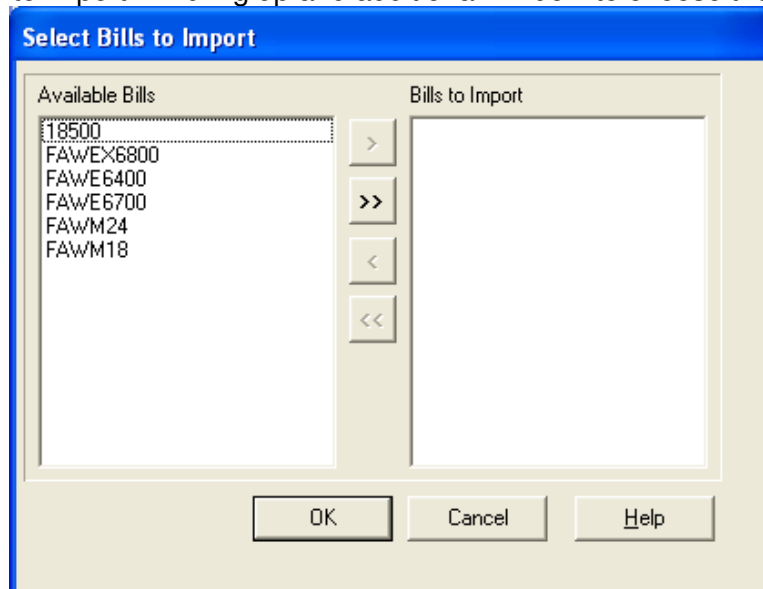

figure 3.
2. Select bills to import will bring up an additional window to choose the bills. Fig. 3